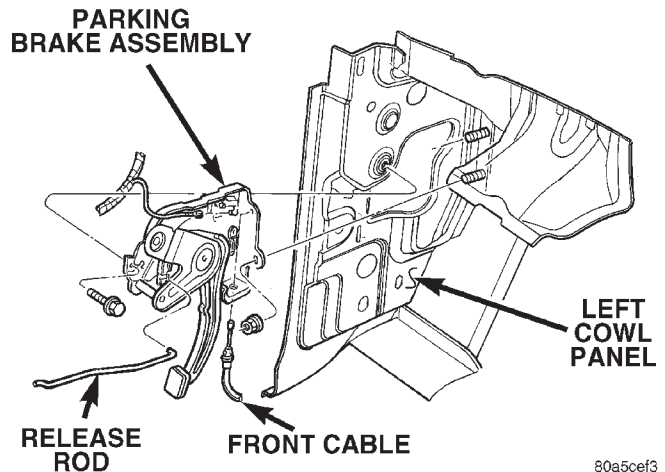

Fig. 34 Parking Brake Pedal Assembly
- (1) Remove left side kick panel.
- (2) Remove brake release rod from pedal assembly- (Fig. 34).
- (3) Disconnect brake warning lamp switch.
- (4) Remove front parking brake cable.
- (5) Remove mounting nuts and mounting bolt.
- (6) Slide assembly rearward off the mounting studs (Fig. 34).